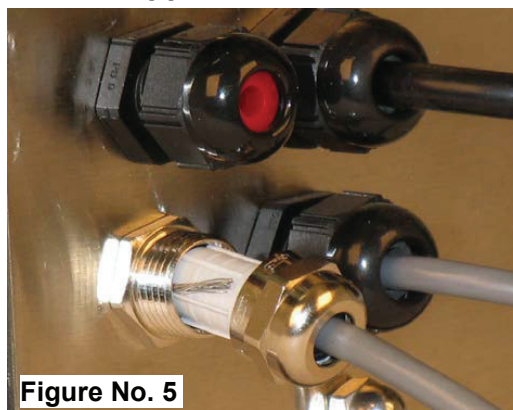

Figure No. 5
2. Referring to Figure No. 5, fold the shield wire back over the plastic insert and then insert the plastic insert (with the shield wire) into the gland connector.